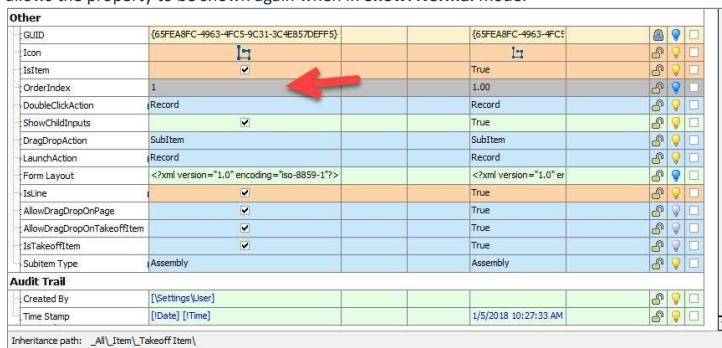

Figure 14
14. Scroll down to the bottom of the window. A grayed row is now visible (see the red arrow in Figure 14); this row is gray because the item is hidden.